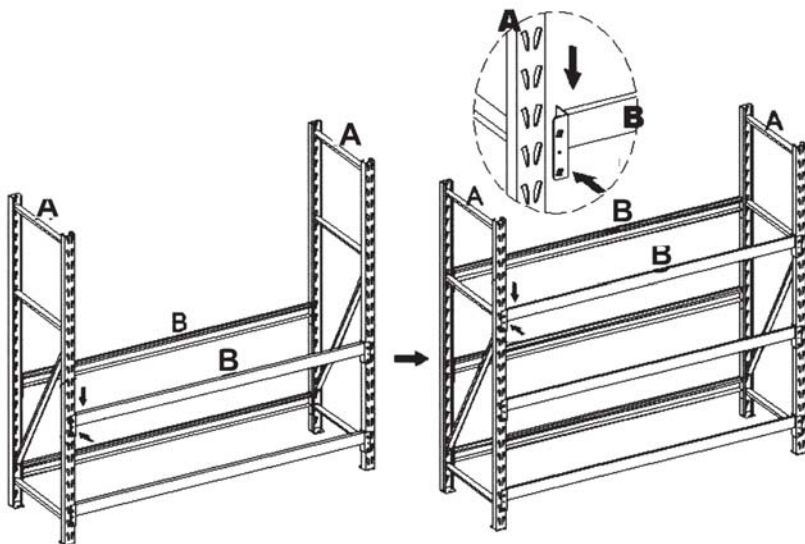

Fig 2
- Repeat steps 2 to 4 to attach the next set of beams (B) at the same level to form the second and third shelf frames as shown in fig 2.